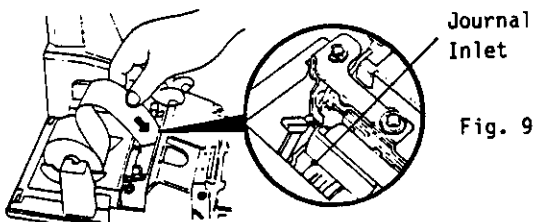

Fig. 9
5. Insert the paper end into the Journal Inlet, feed the paper in while pressing down the [JF] key. (Fig.9)